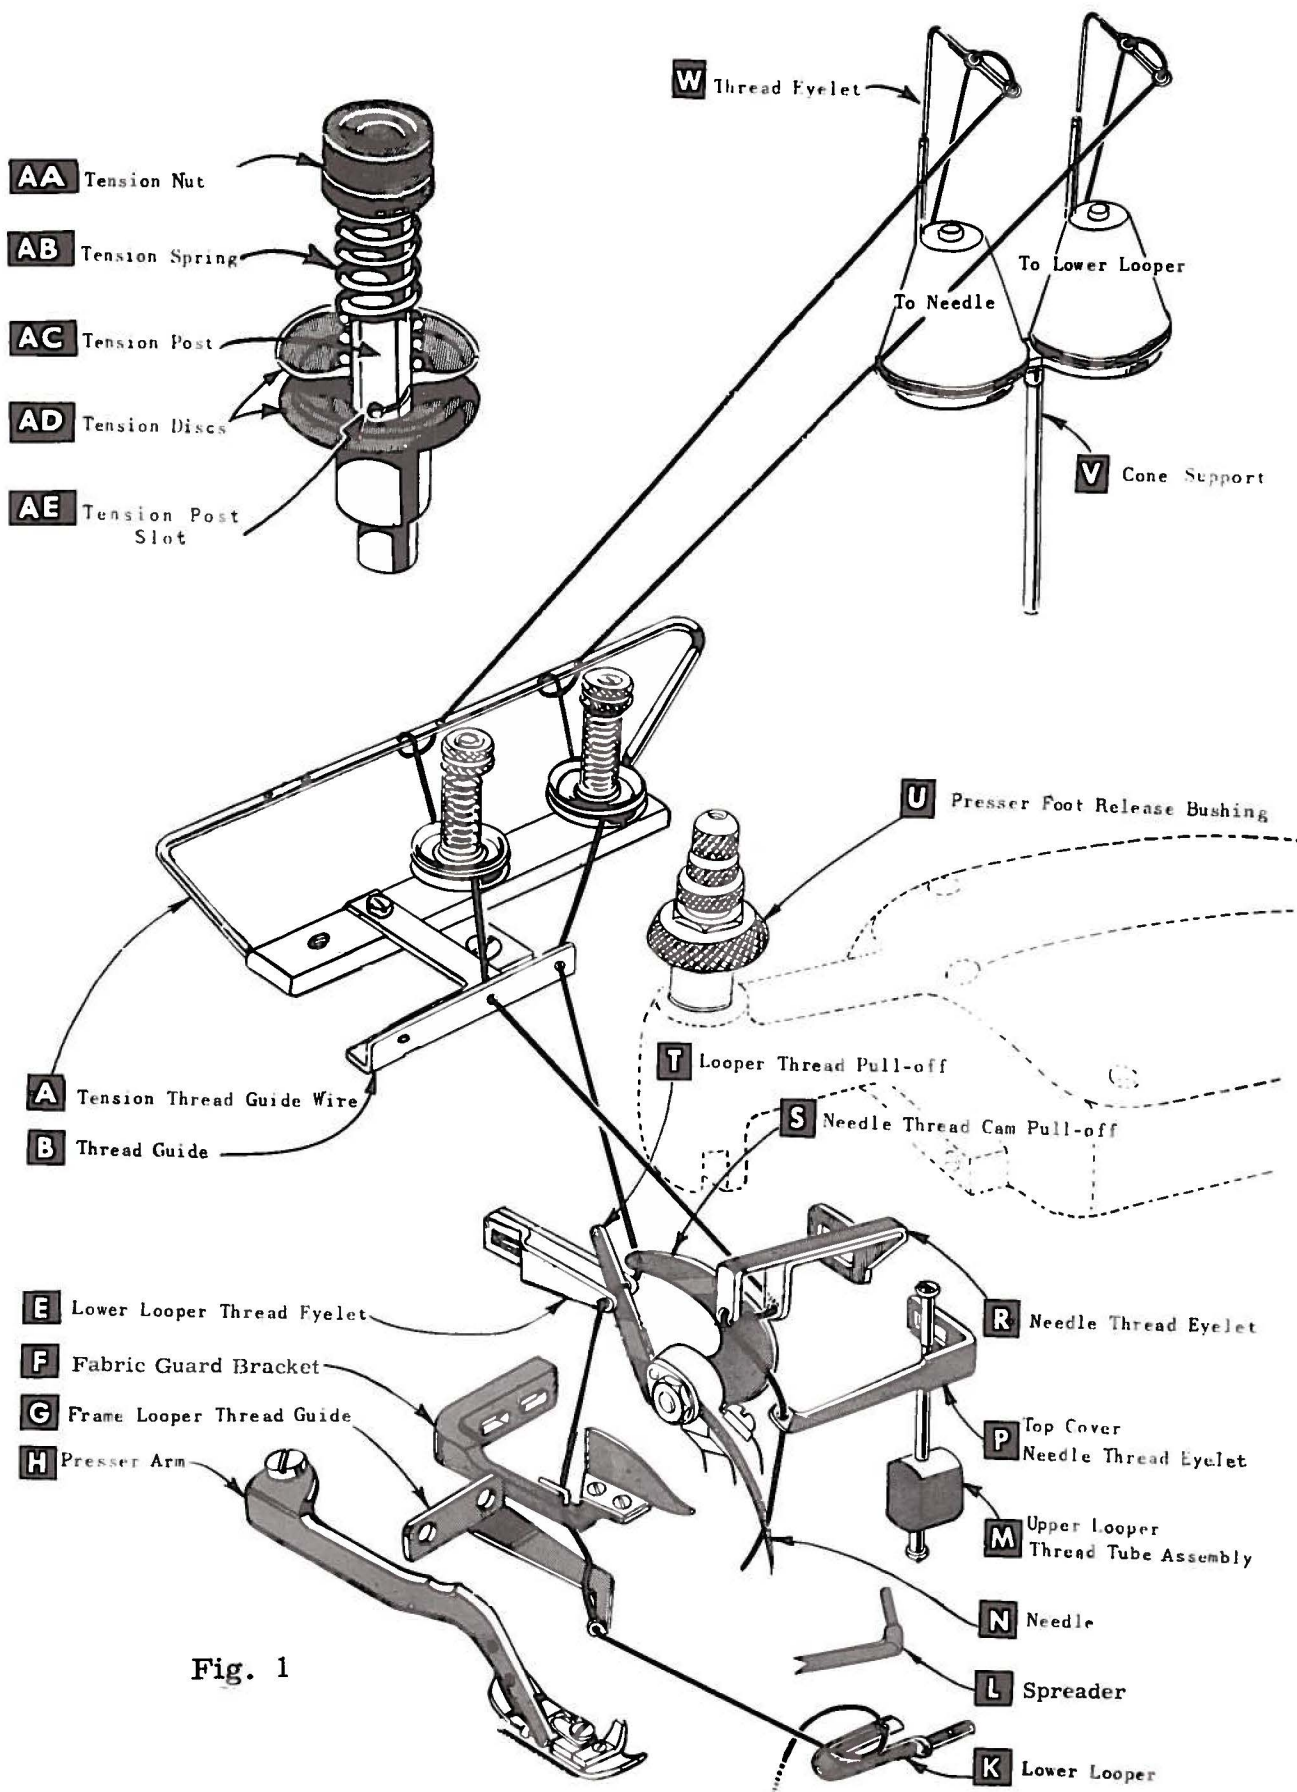

Fig. 1
Release pressure on presser foot by turning presser foot release bushing (U, Fig. 1) and swing presser arm (H) out of position. Turn handwheel in operating direction until needle is at its lowest point of travel. Using hexagonal socket wrench No. 21388 AS furnished with machine, loosen needle clamp nut about 1/4 turn. Again turn handwheel until needle is at high position; withdraw needle.
After thread comes from cone on thread stand (V, Fig. 1), it is brought up through back thread eyelet, then down through front thread eyelet (W). Next, it is threaded through each pair of holes in tension thread guide wire (A), down right hand hole and up through left hand hole. Then thread continues between tension discs (AD) through slot (AE), and on through thread guide (B).
Only parts involved in threading are shown in threading diagram (Fig. 1). Parts are placed in their relative positions for clarity.
Double end of thread and lead it through both eyes of lower looper thread eyelet (E, Fig. 1) from right to left. Note thread must pass in front of looper thread pull-off (T). Lead thread behind fabric guard (F) and through frame looper thread guide (G). Turn handwheel in operating direction until heel of lower looper (K) is all the way to the left, then thread through both eyes from left to right. Left eye of lower looper can be threaded easily if tweezers are in left hand.
Turn handwheel in operating direction until needle (N, Fig. 1) is at its highest position. Insert needle thread from right to left, through both eyes of needle thread eyelet (R), under neck of top cover casting, then down through hole in top cover needle thread eyelet (P). Thread needle from front.
The amount of tension on needle and looper threads is regulated by two knurled tension nuts (AA, Fig. 1). Tension on threads should be only enough to secure proper stitch formation.
While sewing on material, check needle thread control as follows: Usually all needle thread is drawn on needle down stroke. At top of needle stroke, thread should be just tight enough to feed chain off stitch tongue. Stitch tends to pull down slightly if excessive thread is pulled on the up stroke. With needle at bottom of stroke, position needle thread eyelet (R, Fig. 1) so that needle thread cam pull-off (S) just contacts needle thread.
With material under presser foot, set lower looper thread eyelet (E, Fig. 1) back and down far enough so thread is a little slack when spreader reaches its extreme left position. Looper thread eyelet (E) should be about horizontal.